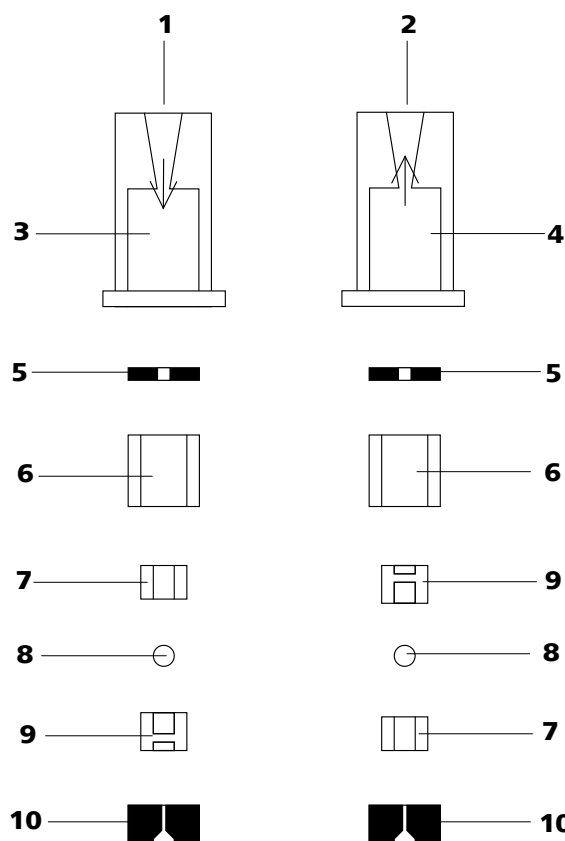

Figure 33 Components of the inlet valve and outlet valve
- The inlet valve and the outlet valve consist of the same, just differently arranged components (see Figure 33, page 65).
Reassemble valve components *according to figure 33, page 65*.
- Lay the other valve components above another in the correct sequence (*see Figure 33, page 65*).
If this is not the case, the valve has to be dismantled again and be reassembled correctly (see Figure 33, page 65).